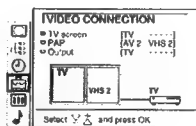

Fig. 50
- Select the symbol for «Video Connection» with  $\Delta$  or  $\nabla$  and press OK. The VIDEO CONNECTION menu appears. (See Fig. 50)